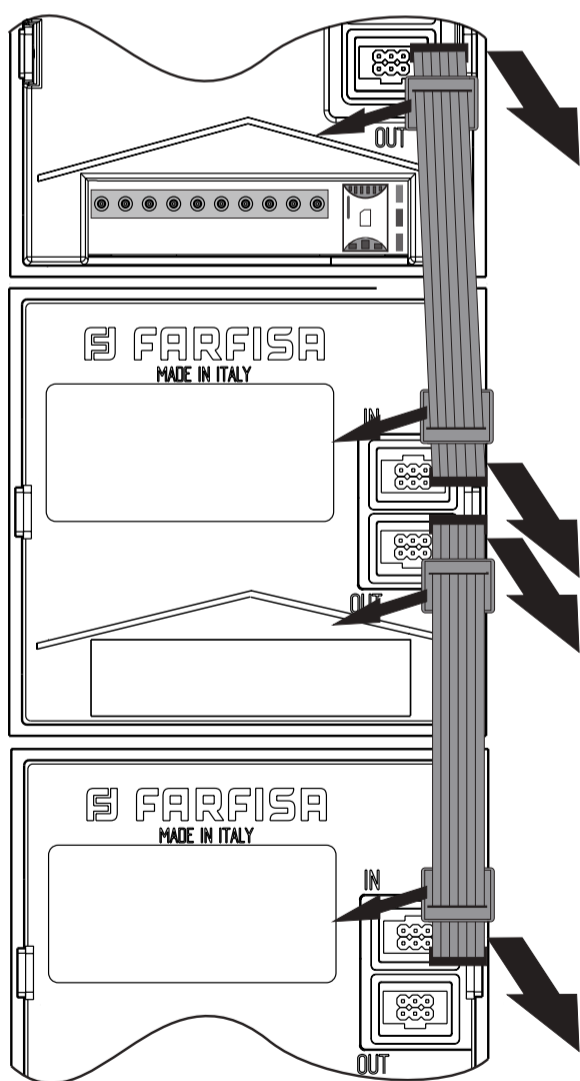

Fig. 11
- Disconnect the flat cables connecting the modules to each other (figure 11).